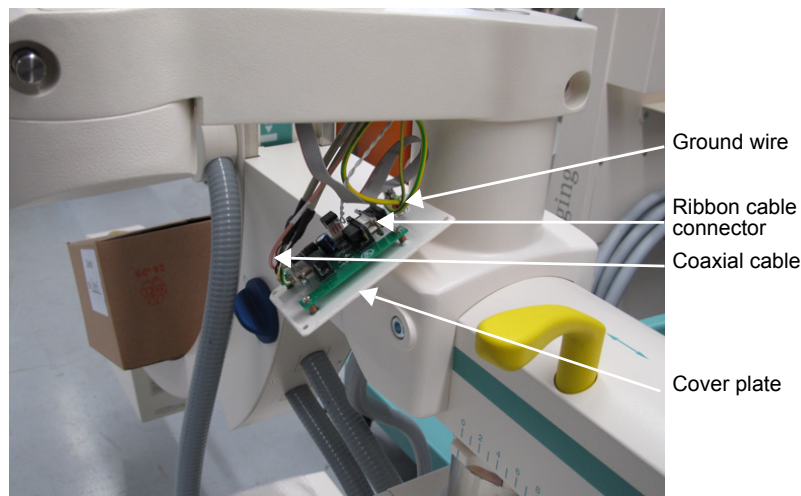

Fig. 12-6 Connections on the circuit board attached to the cover plate
- Disconnect the ground wire from the grounding point on the circuit board attached to the cover plate (→ Fig. 12-6).